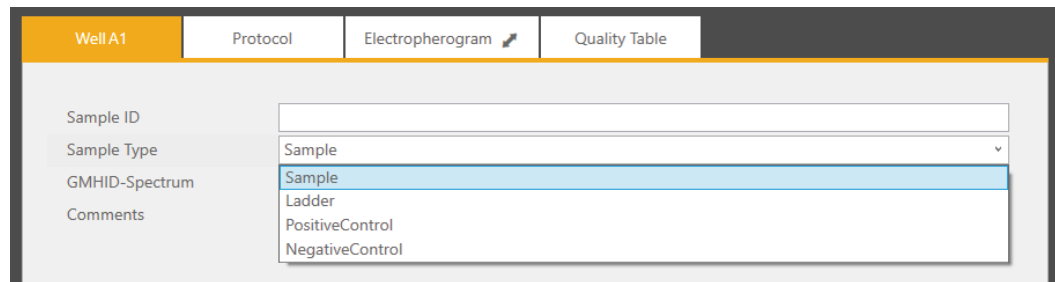

Figure 7. Drop-down options for sample type.
5. Select sample types for each sample or group of samples on the plate. Select the sample(s) then use the drop-down menu (Figure 7) to designate the well as Sample, Ladder, Positive Control or Negative Control. These designations will be included in the output file for downstream analysis.